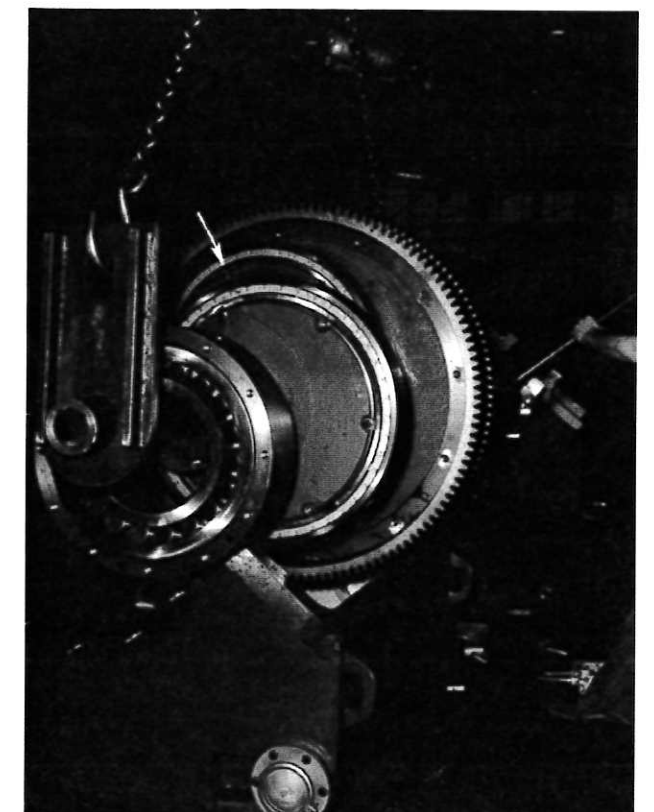

FIGURE 18
2. Bar eccentric and gear assembly so reference point on center throw moves away from operator approximately 20° from vertical as shown in FIGURE 18, page 22. Ease the assembly back and down slightly, being careful not to damage teeth of gear or lip of frame.